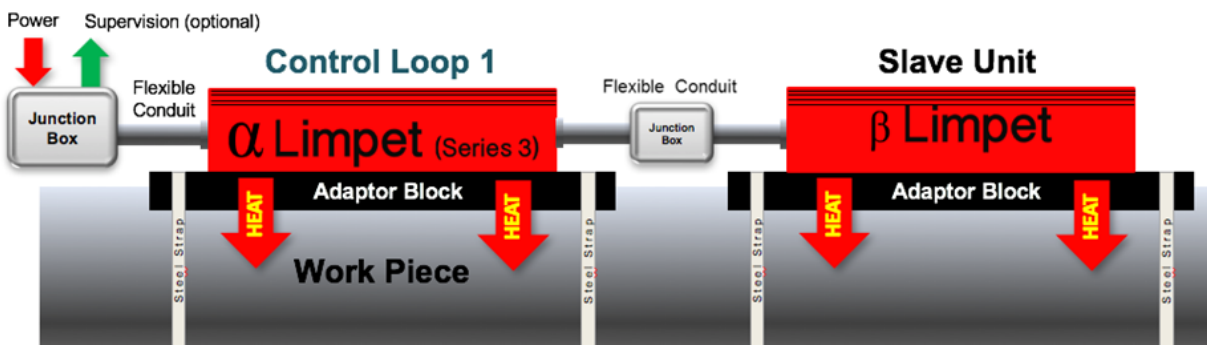

Figure 2 — Typical Series 3 AlphaLimpet application with "slave" BetaLimpet
- A typical arrangement with a Series 3 AlphaLimpet driving a BetaLimpet slave is shown in Figure 2.